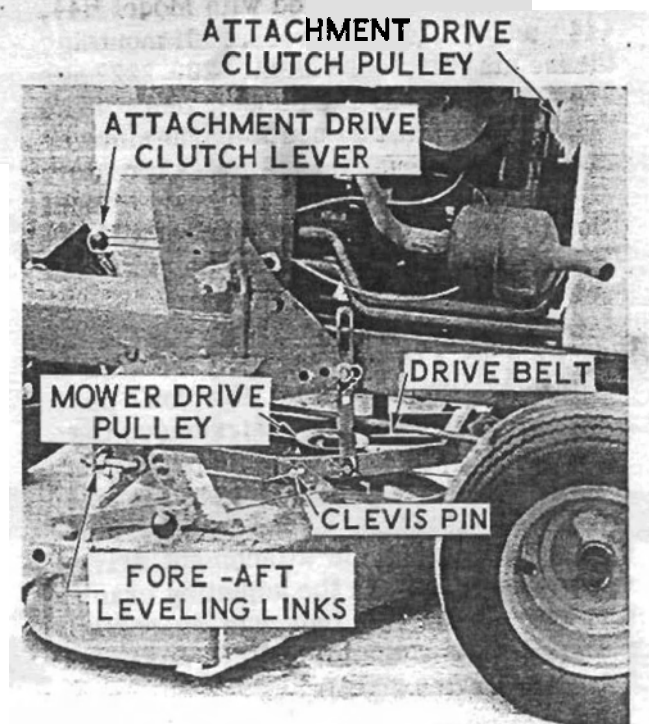

Figure 17.
7. See Figure 17. Install the fore-aft leveling links as illustrated and secure with safety pins.
9. See Figures 17 and 18. Pull the attachment drive lever out to the "on" position. Raise the hood and remove the spark plug wire as a safety precaution. Insert the drive belt in front of the idler pulleys, between the fan and heat exchanger and onto the attachment drive clutch pulley. Turn the adjusting crank clockwise until the belt can be easily placed around the idler pulleys and onto the mower drive pulley.